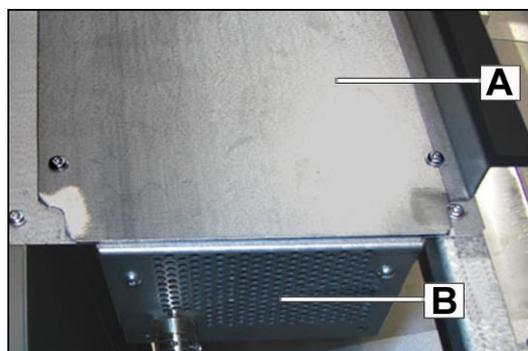

Fig. 3.5
2. Remove covers **A** and **B** from the inverter (Fig. 3.5).